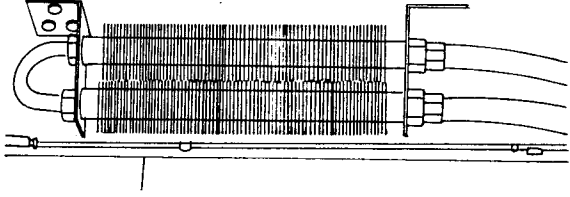
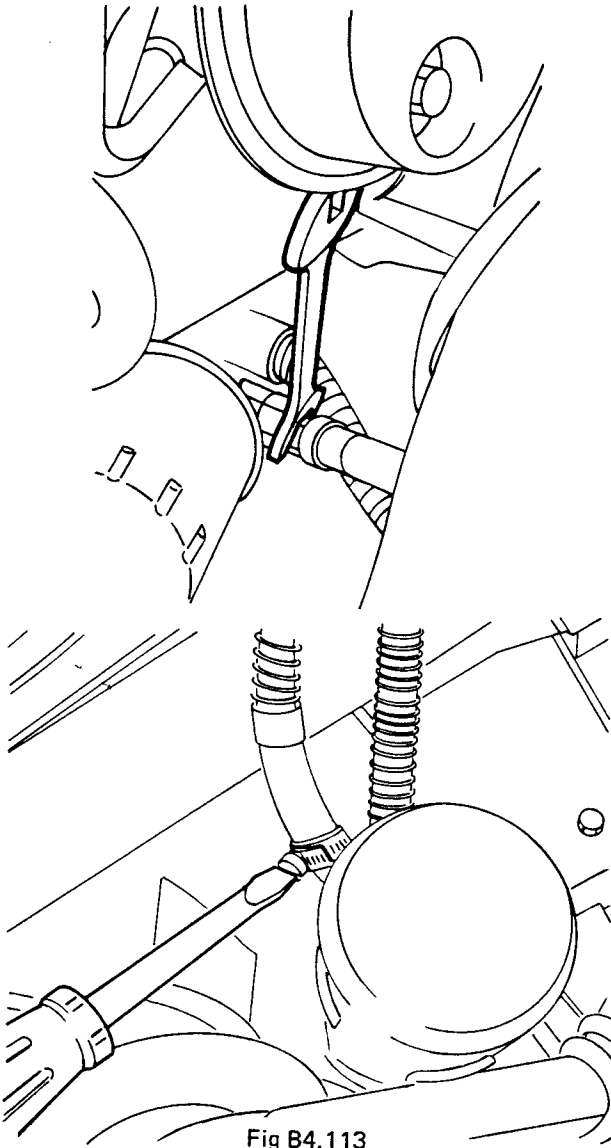

Fig B4.112
Fig B4.113
- (1) Refer to Fig B4.112. Remove the six nuts and bolts securing the oil cooler to the chassis.
- (2) Lower the oil cooler from the chassis.
- (3) Refer to Fig B4.113. Using a suitable container to catch the oil, disconnect the oil cooler pipes from the oil filter adaptor housing and remove the pipes.
- (1) Fig B4.113 still applies. Reconnect the pipes to the oil filter adaptor housing.
- (2) Fig B4.112 still applies. Position the oil cooler on the chassis and secure with the six nuts and bolts.